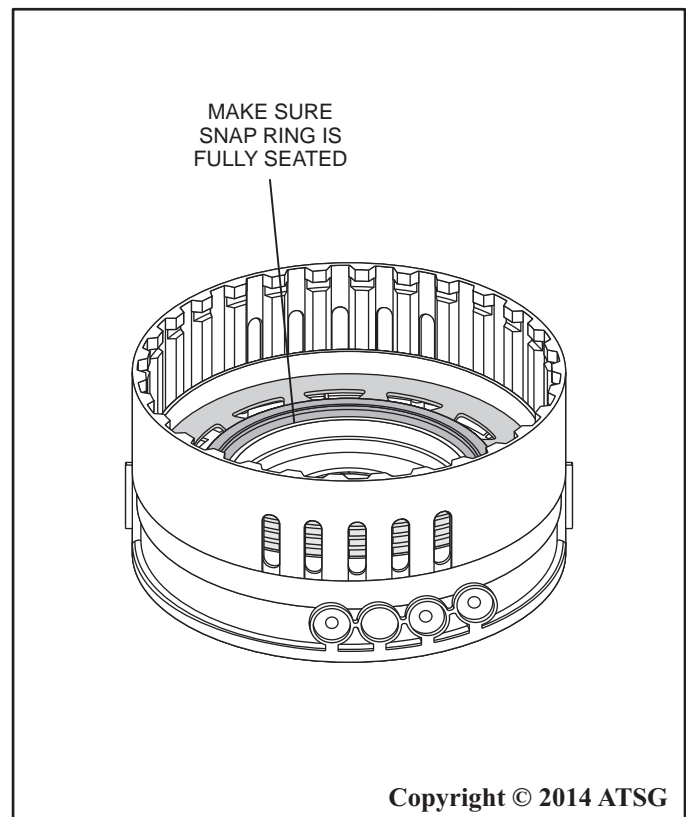

Figure 106
8. Using the ST Clutch Spring Compressor 307-525 or similar compressing tool and a press, install the intermediate clutch piston retaining snap ring as shown in Figure 106.
9. Make certain snap ring is fully seated as shown in Figure 106.